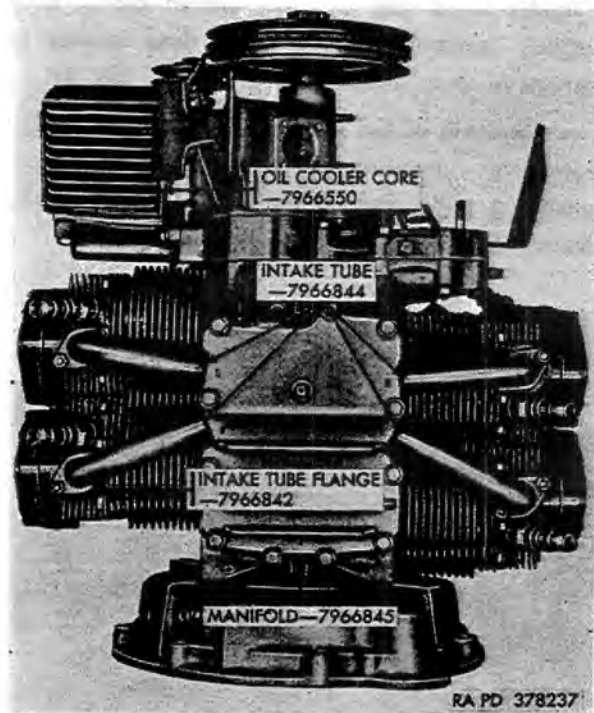
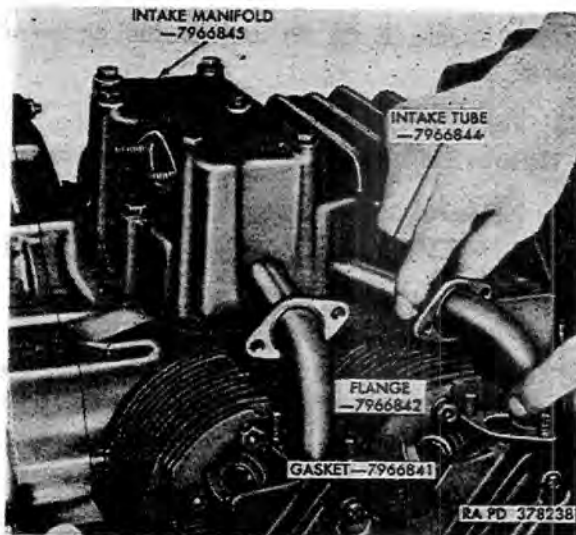

Figure 10. Intake manifold installed—Top view.
Figure 11. Removing intake tube.
a. Remove two hex nuts and lockwashers attaching each of the four intake tube flanges (fig. 10) to cylinder heads. Loosen and slide flanges over elbow of intake tubes (fig. 11). Remove tubes from intake manifold. Remove and discard flange gaskets.